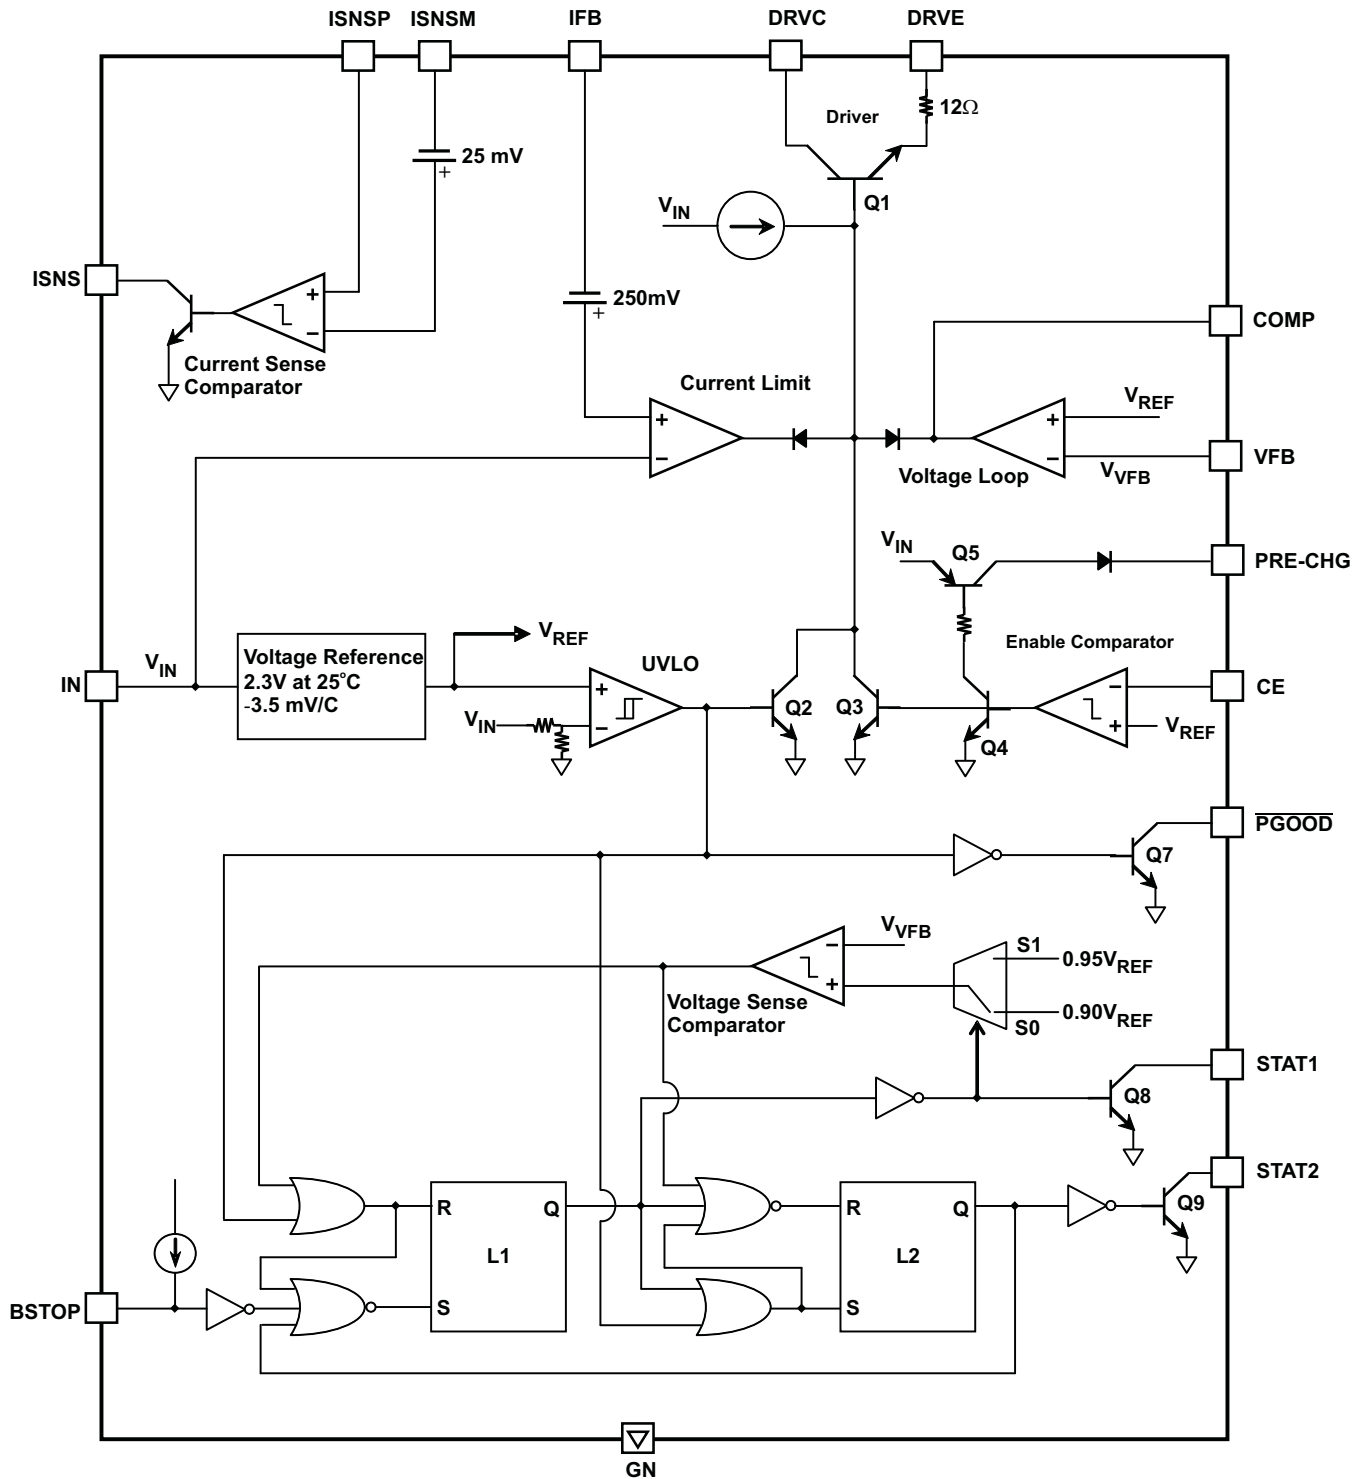
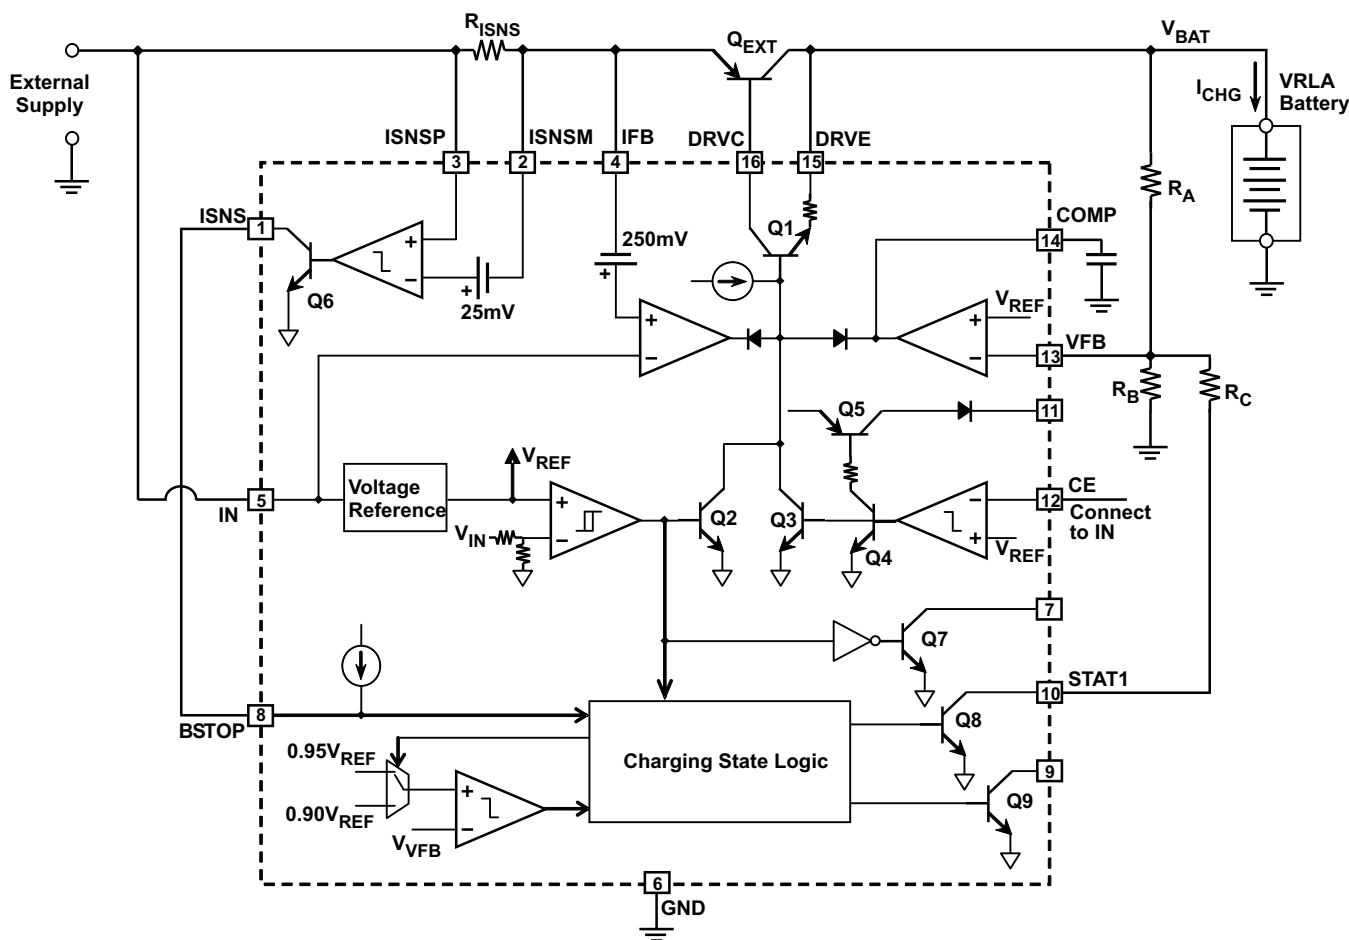
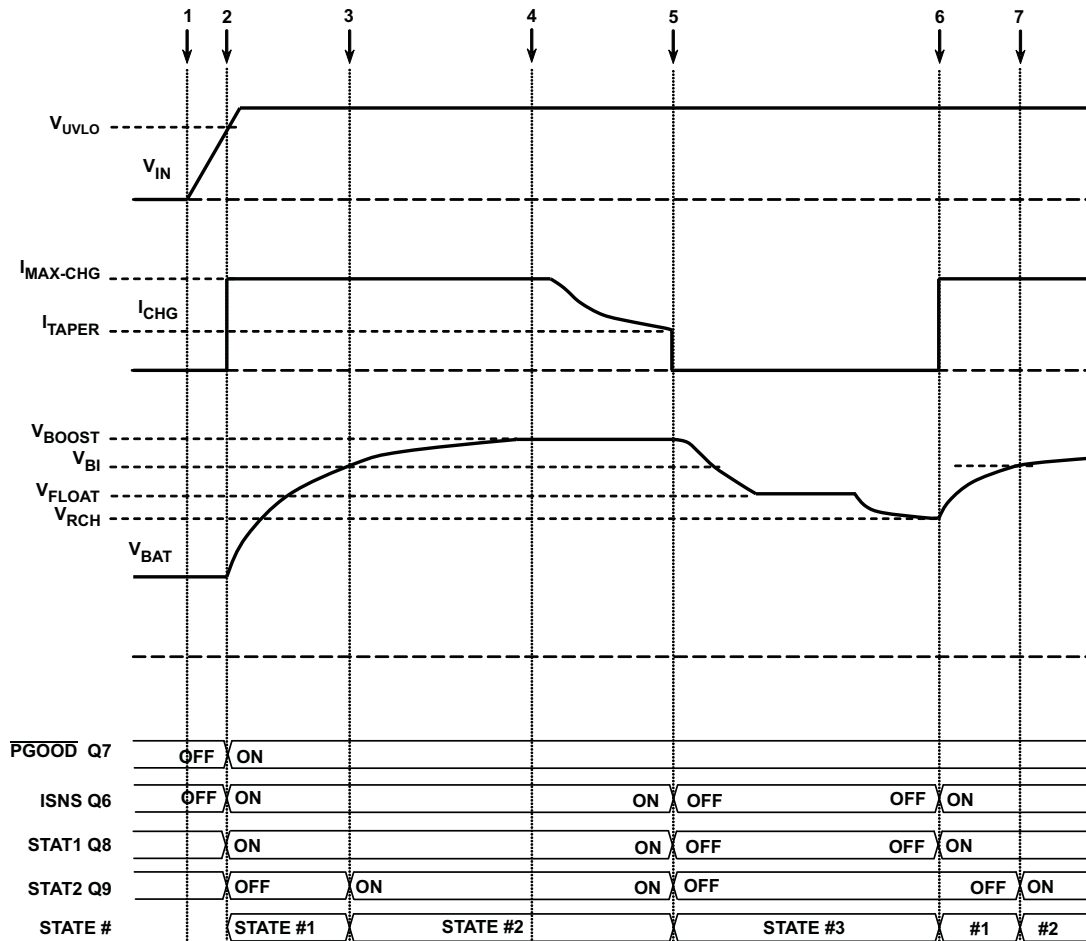

Figure 2. Simplified Block Diagram
Figure 4.
Figure 5.
Only an external pass transistor and minimum number of external passive components are required along with the IC to implement a charger for sealed lead-acid batteries. The IC's internal driver transistor Q1 (see Figure 2) supports NPN as well as PNP pass transistors, and provides enough drive current (25mA specified) to support a wide range of charging rates.
The driver transistor is controlled by a voltage regulating loop and a current limiting-limiting loop (see Figure 2). The current-limiting loop reduces drive when the voltage between the IN pin and the IFB pin increases towards V_{ILIM} (250mV typical). The voltage regulating loop tries to maintain the voltage on the VFB pin at V_{REF} . Together, these two loops constitute a current-limited precision constant-voltage system, which is the heart of any lead-acid charger. The voltage regulating amplifier needs an external compensation circuit which depends on the type of external pass transistor (see Application Information section).
An undervoltage lock-out circuit is also provided (see Figure 2). This circuit disables the driver transistor as long as the input voltage is below UVLO (4.5V typical). The UVLO circuit also drives an open-collector output PGOOD.
Figure 4 shows the bq24450 configured as a simple dual-level float-cum-boost charger. Figure 5 shows the sequence of events that occur in a normal charge cycle. At (1) in Figure 5, power is switched ON. As long as the input voltage V_{IN} is below the undervoltage lockout threshold UVLO, Q2 is ON, disabling the driver transistor Q1. As the input voltage V_{IN} ramps up and rises above UVLO Q2 turns OFF. This enables Q1 and thus the external transistor Q_{EXT} . At the same time, Q7 turns ON, latch L1 is forced to RESET and latch L2 is SET (see Figure 2 for the internals of the Charging State Logic).
As charging proceeds, the voltage at the VFB pin increases further to V_{REF} . At this point, the voltage regulating amplifier prevents the voltage at the VFB pin from rising further, maintaining the battery voltage at V_{BOOST} . [(4) in Figure 4].
As long as the peak load current is less than $I_{MAX-CHG}$, it will be supplied by Q_{EXT} , and the voltage across the battery will be maintained at V_{FLOAT} . But if the peak load current exceeds $I_{MAX-CHG}$, the battery will have to provide the excess current, and the battery terminal voltage will drop. Once it drops below $0.9V_{REF}$, at (6) in Figure 4, a new charge cycle is initiated. The battery voltage V_{BAT} at this point, V_{RCH} , is given by: